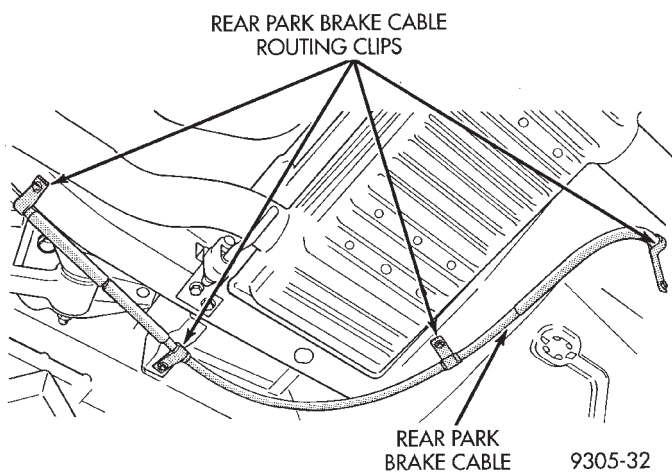

Fig. 8 Park Brake Cable Routing Clip Locations
(1) Install parking brake cable into rear brake support plate. Be sure the retainers are expanded around mounting hole in brake support plate and connect parking brake cable end to brake shoe lever.
(2) Install parking brake cable into cable mounting hole in floor pan of vehicle. Be sure that cable retainers are expanded around mounting hole in floor pan.
(3) Install the 4 routing clips attaching rear park brake cable to floor pan and frame of vehicle (Fig. 8).